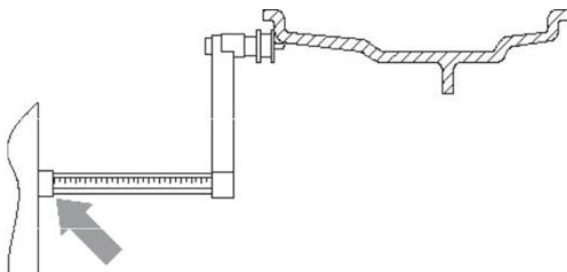

Figure F3.3 - Manual acquisition of wheel dimensions: placing the Distance sensor
2. Extract the distance sensor and place it on the wheel as shown in Figure F3.3.
3. Read the distance value on the graduated scale as shown in figure F3.3. The distance value is always expressed in millimetres;